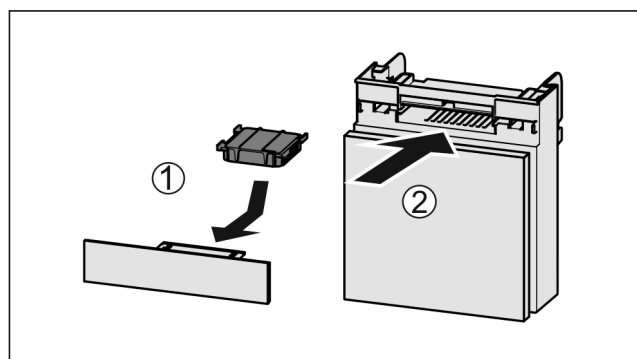

Fig. 121
- Insert the carbon filter as shown in the diagram Fig. 121 (1).
- Push the compartment in Fig. 121 (2).